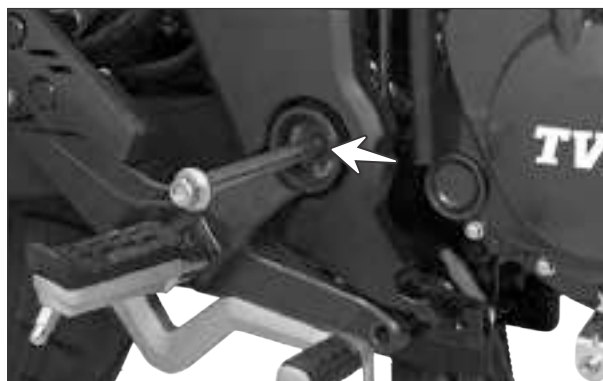

Fig. 2.128
- Draw out shaft complete swing arm by gently tapping at the other side. (Fig. 2.128)